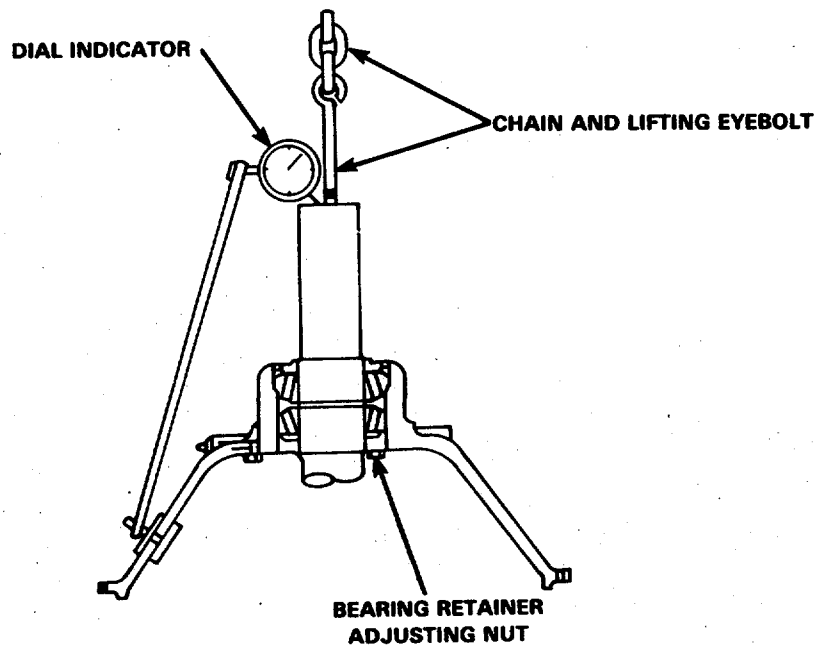

FIGURE 3-61. *Adjusting Roller Bearings.*
- aa. Use the bearing retainer nut (13) for adjusting the tapered roller bearings. Refer to FIGURE 3-61 .
- (2) Attach an eyebolt in the 1/4 PTF thread at the output end of the shaft. (Models which do not have this hole will have to be inverted with the input end up, and clearance at the output end below, for dial indicator mounting. An extra hub nut with a loop shaped strap welded to it can be used to apply the pushing and pulling forces required during end play check.) See FIGURE 3-61.
- (3) Attach a dial indicator to the housing and locate the stem or plunger, from the indicator, on the outer machined area of the end of the clutch shaft. Mark a spot next to the indicator stem.
- (4) Apply a pushing force of 200 pounds while turning the shaft two complete revolutions in each direction (the weight of the shaft can be counted as part of the 200 pounds). With the pushing force applied, stop the plunger or stem next to the mark and zero the dial indicator.
- (5) Apply a pulling force of 200 pounds (compensate for shaft weight) to the shaft and rotate, with force applied two complete revolutions in each direction. Stop with force applied and mark next to plunger or stem of the dial indicator. The indicator reads the actual end play.
- (6) Adjust nut to obtain the desired end play. Recheck final end play with the dial indicator as described. Lock nut when end play adjustment is between 0.004 and 0.007 inch on the SL11 HP2 (0.006 to 0.010 on the SP 214 P2).